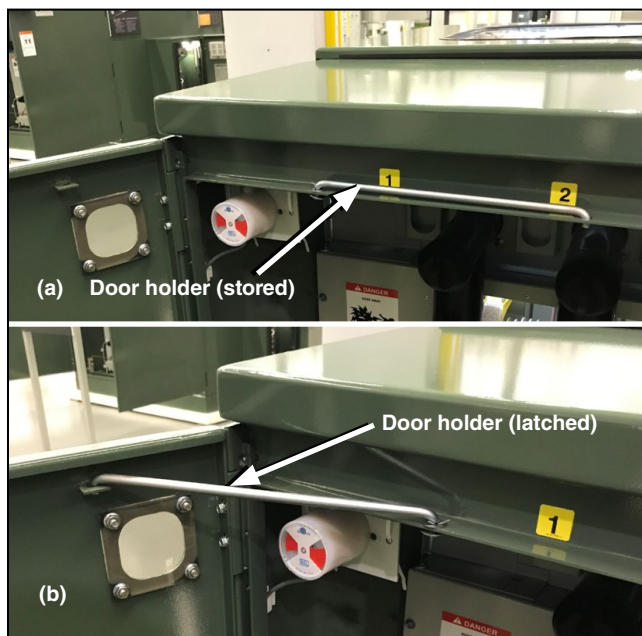

Figure 3. Using the door holder to hold the door open.
STEP 2. Pull the door open and secure it with the door holder. See Figure 3.